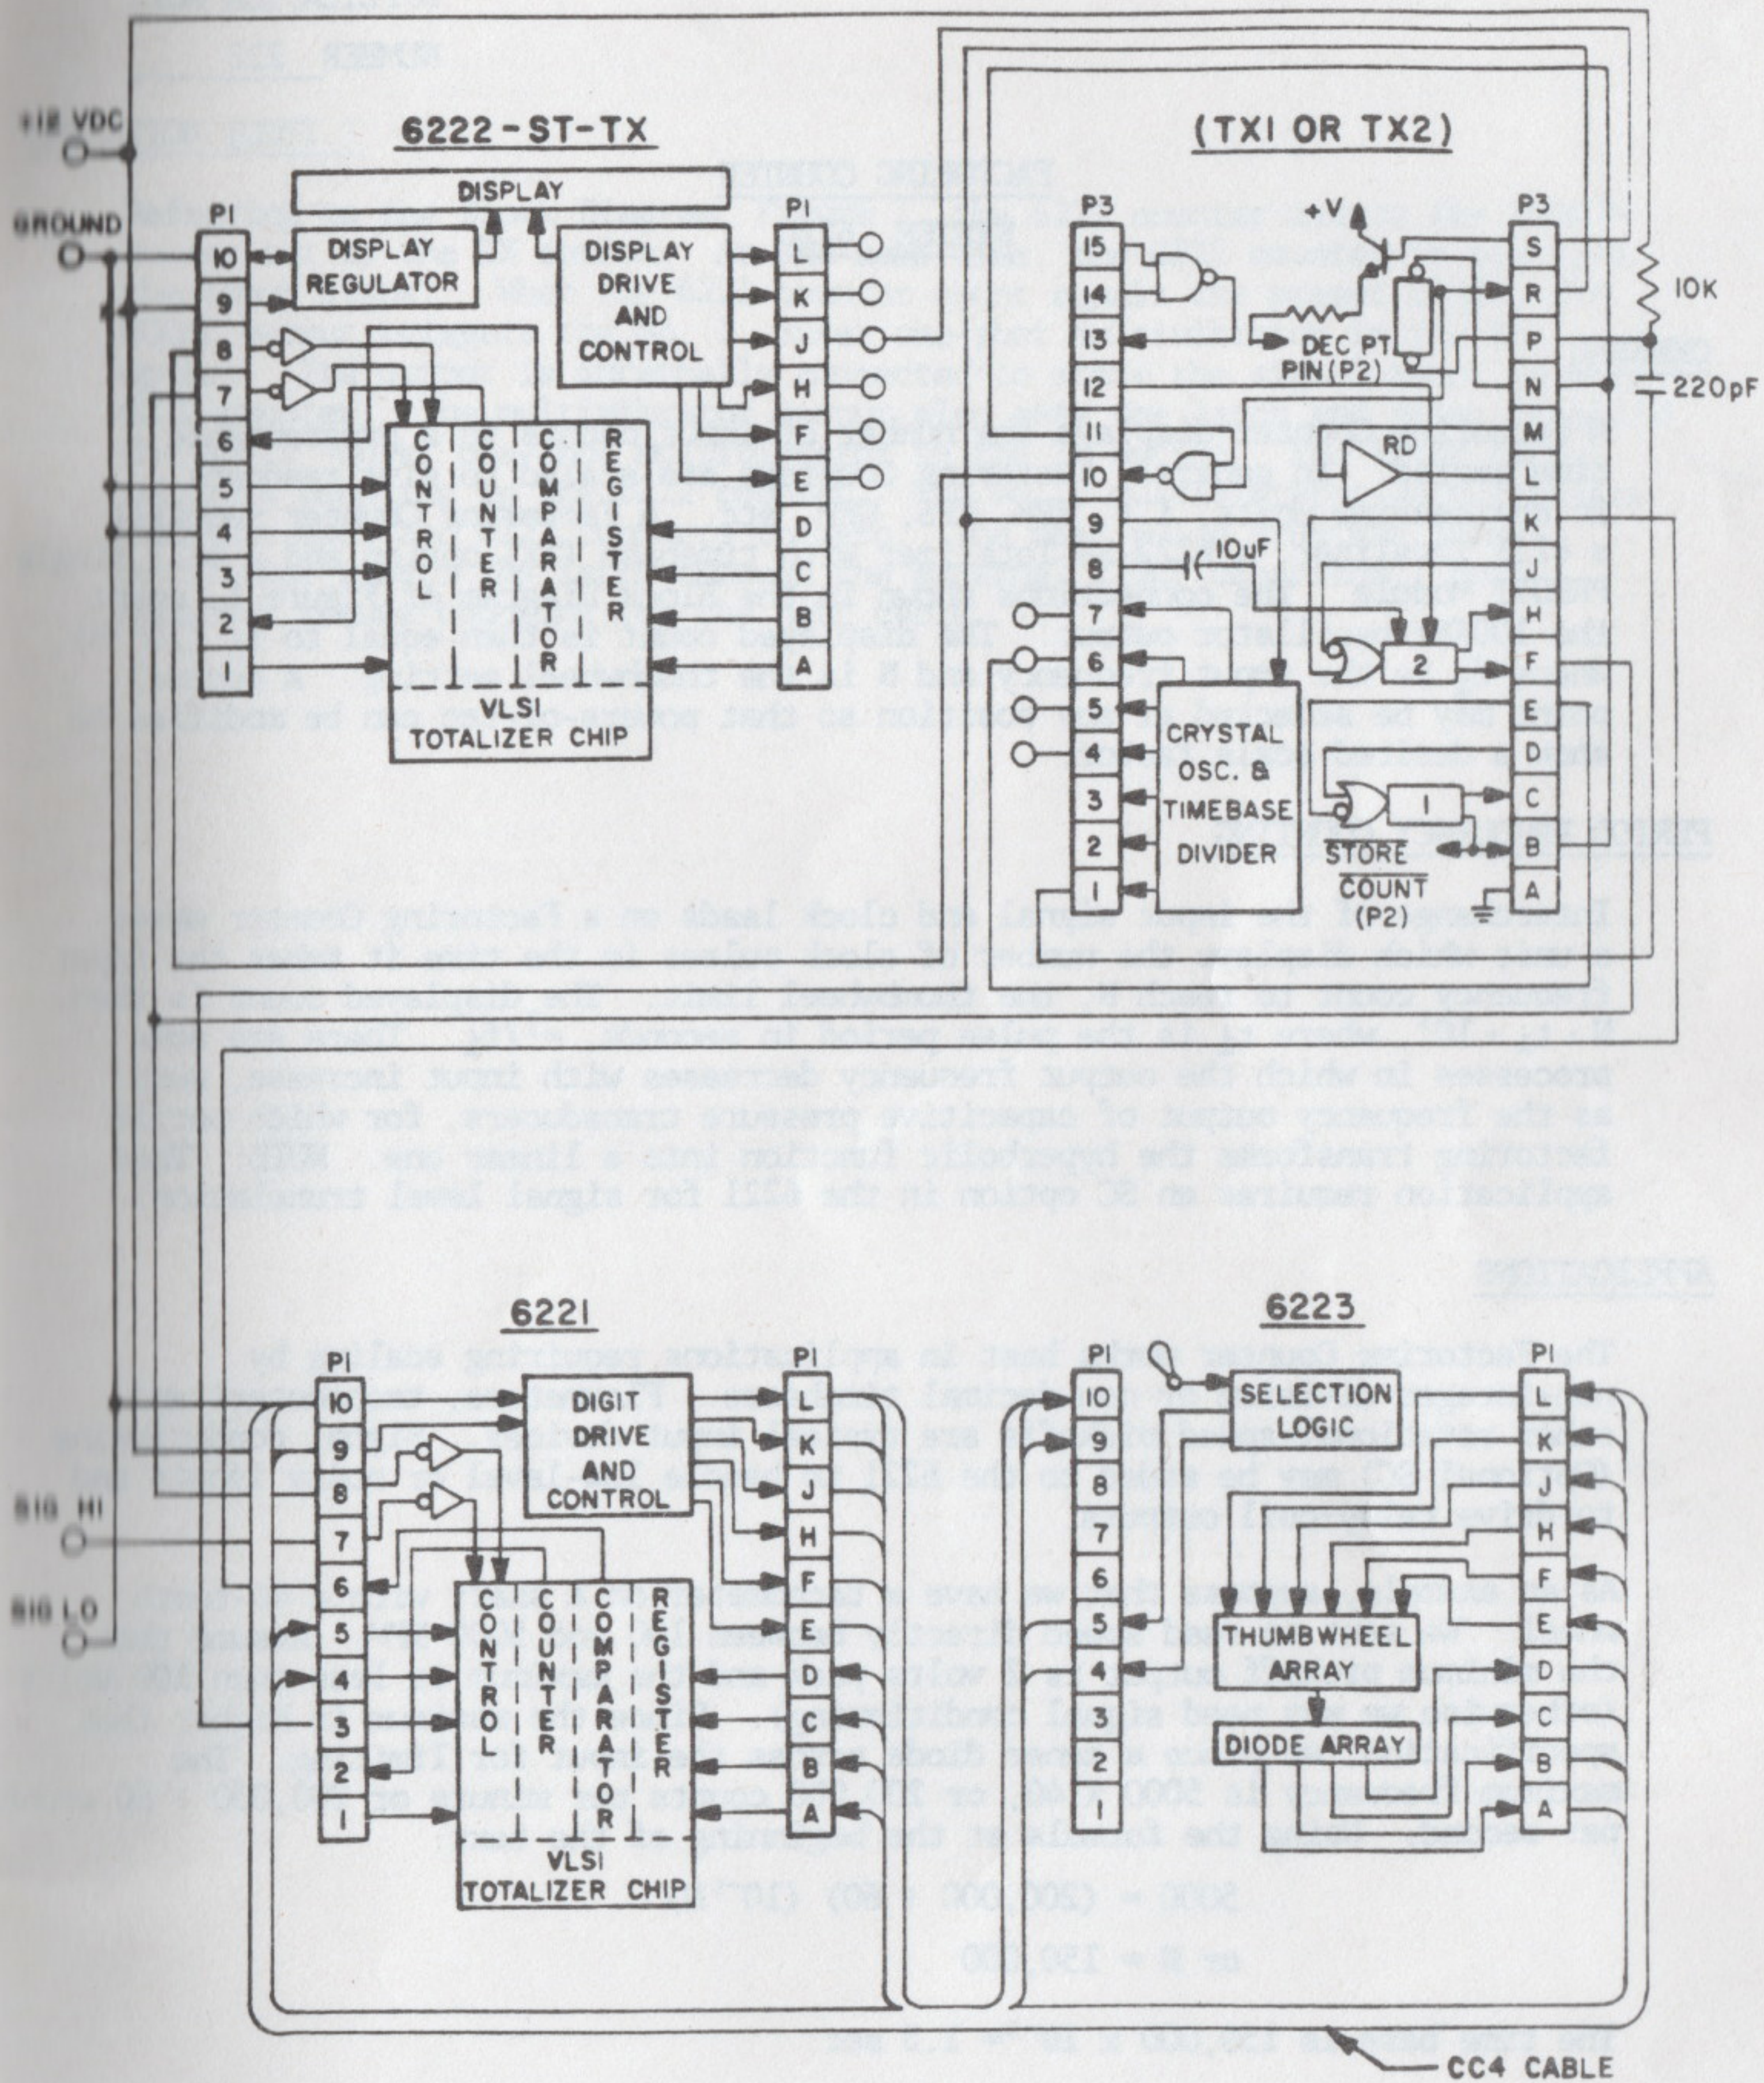

FIGURE 1
Figure 1 shows the block diagram and interconnections for the Prescaling Counter. First, the divisor N is set as the LIMIT value on the 6223 thumbwheel switches. It is entered by pressing down in its toggle switch. This value remains in the 6221 counter until changed or until power is removed. The toggle switch is then lifted to preset the 6221 counter within its count range. The EQUAL output of the 6221 triggers the No. 2 3 μ sec one-shot multivibrator on the TX option. The output of this multivibrator resets the 6221 counter to zero and is counted by the 6222 counter. The 6221 then counts up to N and repeats the process. The 6222 counter with TX option is a frequency counter. When the negative going edge of the time base occurs, the No. 1 one-shot multivibrator generates a 3 μ sec pulse. This pulse is the store command to the counter (interboard connection). It also sets a latch. The latch is connected to reset the time base to zero and to inhibit counting. The latch and pulse outputs are gated together to reset the counter after the count is stored. A connector-mounted 220pF capacitor resets the latch every 10 μ sec. This clears the inhibit from the counter and reset from the time base. A new sample period is started without any spurious counts or truncated time base period. The one-second time-base connection is shown. Other decimal time bases are obtained by changing the time-base divider connection. The decimal point is connected to the right of the 5th most-significant digit. It can be placed on the right of any digit by proper connection.
A Factoring Counter displays the number of input counts in a programmable time period. In general, Factoring Counters are scaled to give readouts in engineering units, i.e. RPM, FPS, GPM, etc. A Factoring Counter requires a 6221 Totalizer, a 6222-ST Totalizer with timebase (TX) option and a 6223 single PRESET Module. The connections shown in the Block Diagram of Figure 1, count the 100KHz oscillator output. The displayed count is then equal to $f_i (10^{-5}N)$, where f_i is the input frequency and N is the thumbwheel setting. A decimal point may be selected at any position so that powers-of-ten can be modified to show a desired scale factor.